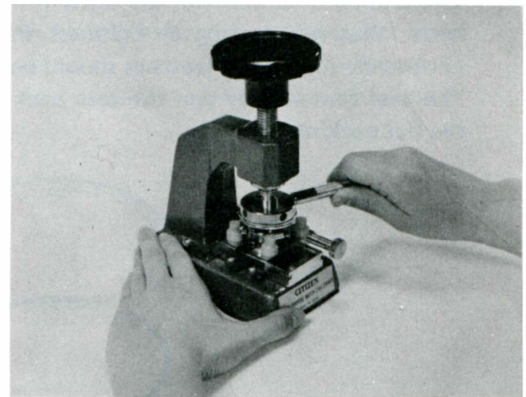

Fig. 3
(1) Unscrew the case back.
- Unscrew the case back by half a rotation using the Citizen Multi-Purpose Watchcase Opener (Fig. 3)